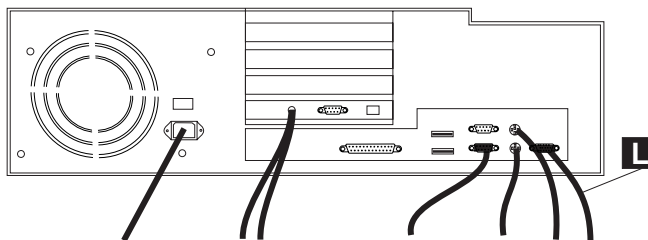

Figure 6-3. Display Connection to the NAS
3. At the rear of the Nways Switch administration station, connect the display signal cable **L** (refer to Figure 6-3).